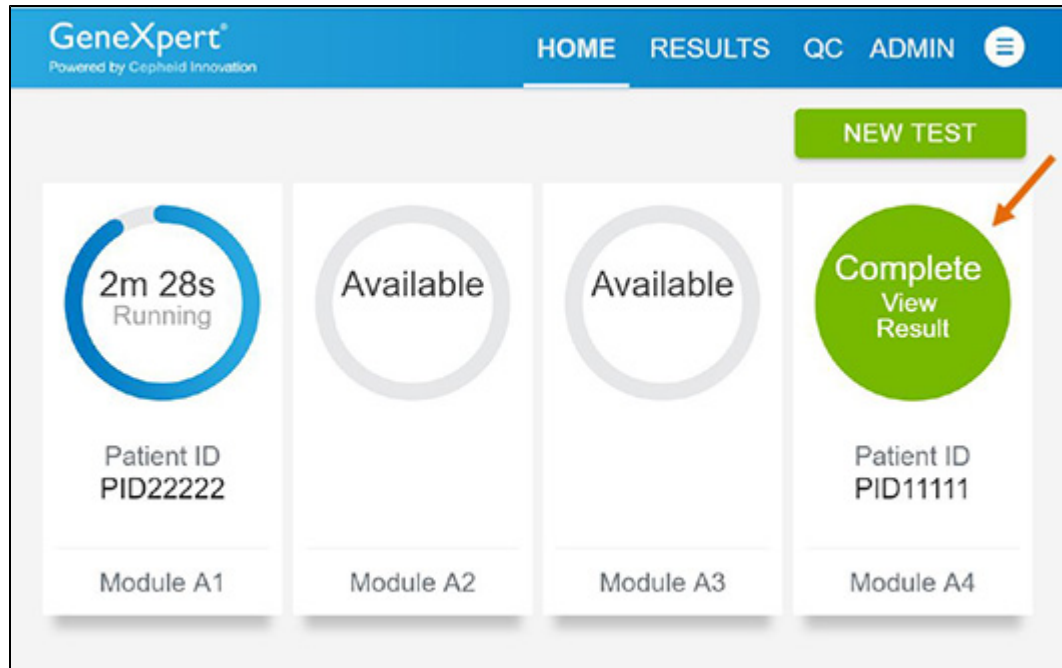

Figure 15. Home Screen with One of Two Tests Completed
1. When a test is completed, touch **COMPLETE View Result** (see Figure 15).